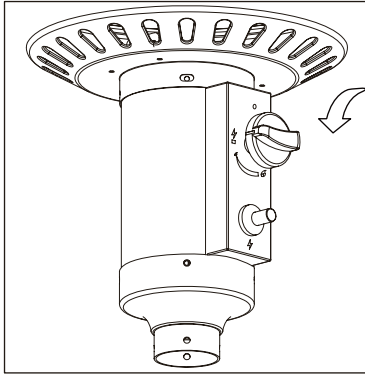

Figure 3
- Push in control knob and turn counterclockwise to “PILOT” (  ) (**Figure 3**).